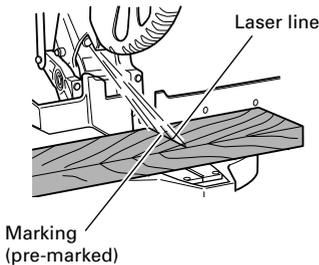

Fig. 13
- Check and make sure on a periodic basis if the position of the laser line is in order. As regards the checking method, draw a right-angle ink line on the workpiece with the height of about 38 mm and the width of 89 mm, and check that the laser line is in line with the ink line [The deviation between the ink line and the laser line should be less than the ink line width (0.5 mm)] (Fig. 13).